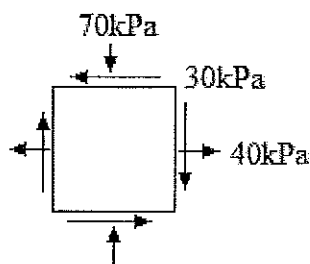

Fig. A8
8. For the state of plane stress shown in Fig. A8, the angle between the horizontal plane and the minor principal stress plane is: